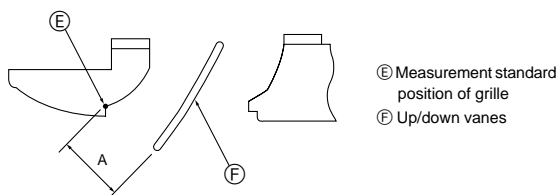

Fig. 8-10
- ① Turn off the main power switch.
- ② Disconnect the connector for the vane motor of the vent that you want to lock.
- ③ To adjust the desired airflow direction, slowly move the up/down vanes within the specified range. (Fig. 8-10)